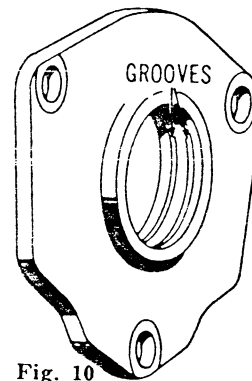

Fig. 10
The pinion bearing cover has grooves inside as shown on Fig. 10. These grooves serve as an "oil seal" only when the cap is "centered" carefully around the shaft before final tightening of the cap screws (32).